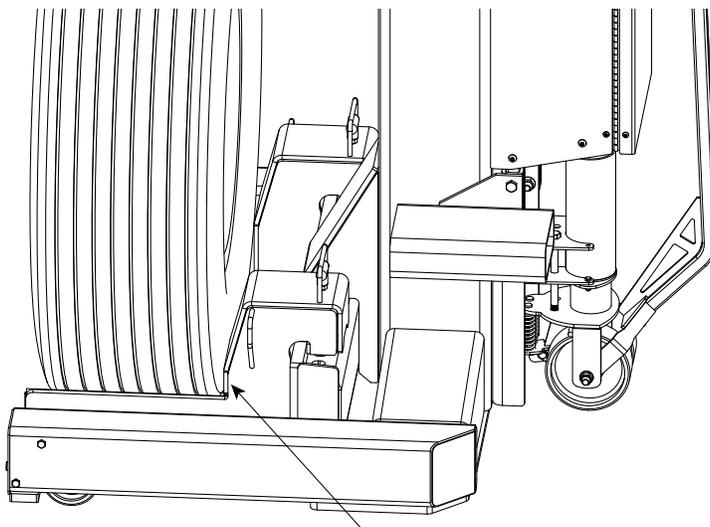

Fig. 13
2. Engagement des pneus aux fourches, Fig. 11, Fig.12, Fig.13 :